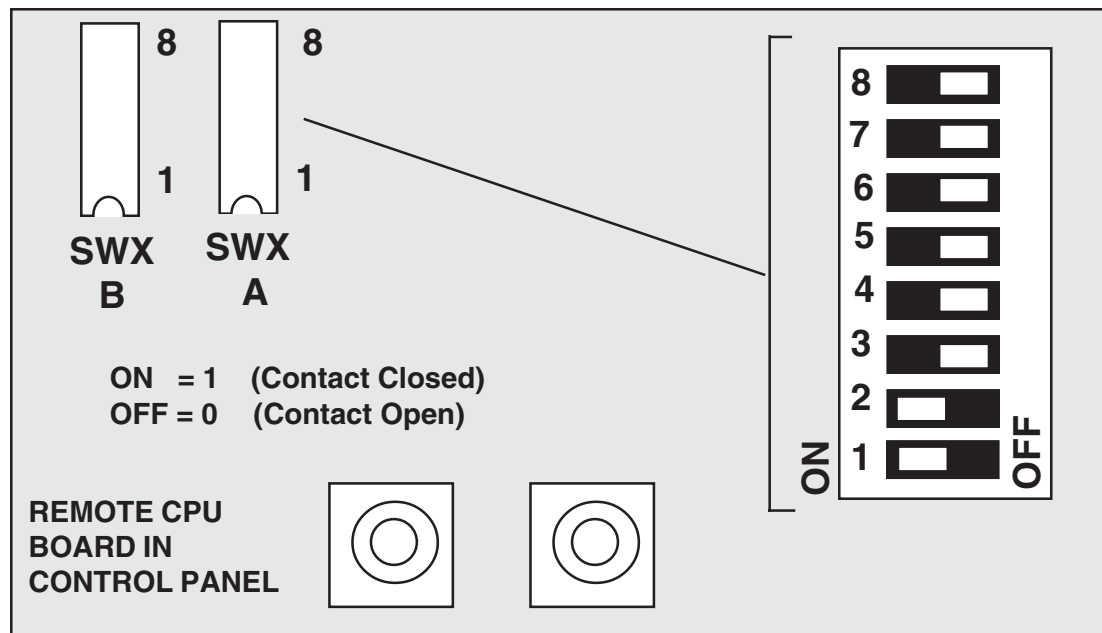

Figure 2-1 Setting DIP Switches A and B
Figure 2-1 Setting DIP Switches A and B	2.3
For the controller to identify a particular control panel, a specific device number or polling address must be assigned to each panel. Sequential binary numbers (00000001 thru 10000000) are used for this purpose. The appropriate binary number is entered into the control panel by setting an internal 8-position DIP switch (A) to the binary number. The DIP switch is located on the remote CPU board (Figure 2-1). The device address is normally assigned and entered at the factory. Site personnel will not be required to enter the number unless there is a control panel exchange or a system expansion. In the event of an expansion the Controller system configuration program will have to be updated to reflect the expansion.
Refer to Figure 2-1
The remote CPU board also has a B DIP switch which sets two functions: Panel configuration and Hot Salvo Mode. (Figure 2-1)